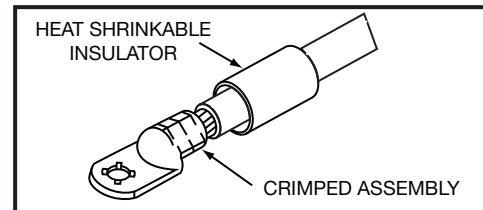

FIGURE 3
10. If heat shrink insulators are used, position them over the barrel of the connector(s), covering the connector barrel and overlapping wire insulation by a minimum of 1-1/2". (See Figure 3). Apply heat per instructions packed with the heat shrink insulators. (Insulation will start to shrink at 250°F.)